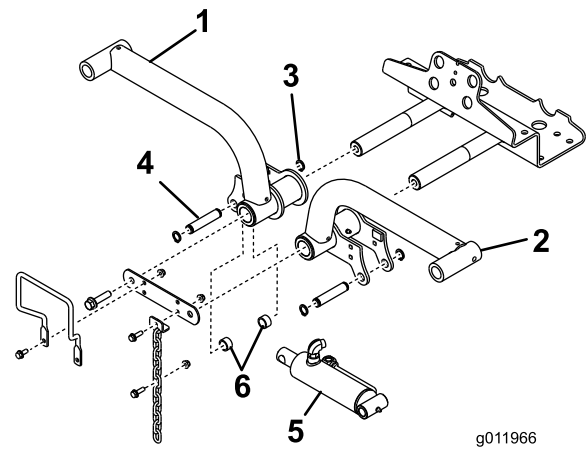

Figure 15
4. Insert the lift arms onto the lift arm pivot shafts (Figure 15), and secure each with a lift arm pivot shaft link and bolts previously removed.
2. Retaining ring 5. Spacers (2)
6. Secure the right end of the lift cylinder to the right lift arm with a pin and 2 spacers (Figure 15). Secure it with a retaining ring.